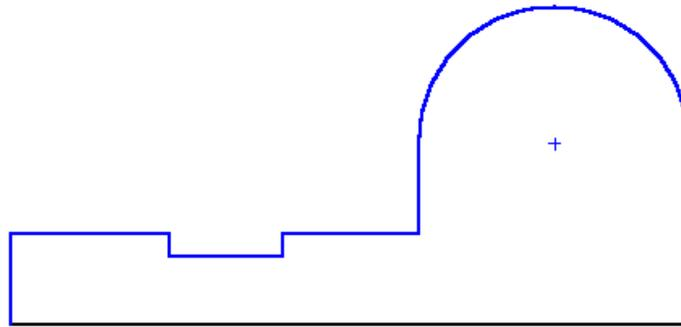

Figure 1-56 Sketch after drawing the outer loop
- d. Draw the outer loop of the sketch using the **Line** and the **Tangent Arc** tool, refer to Figure 1-56.
20. Choose the **Zoom to Fit** button to fit the sketch on the screen. This completes the outer loop of the sketch. The sketch after drawing the outer loop is shown in Figure 1-56.